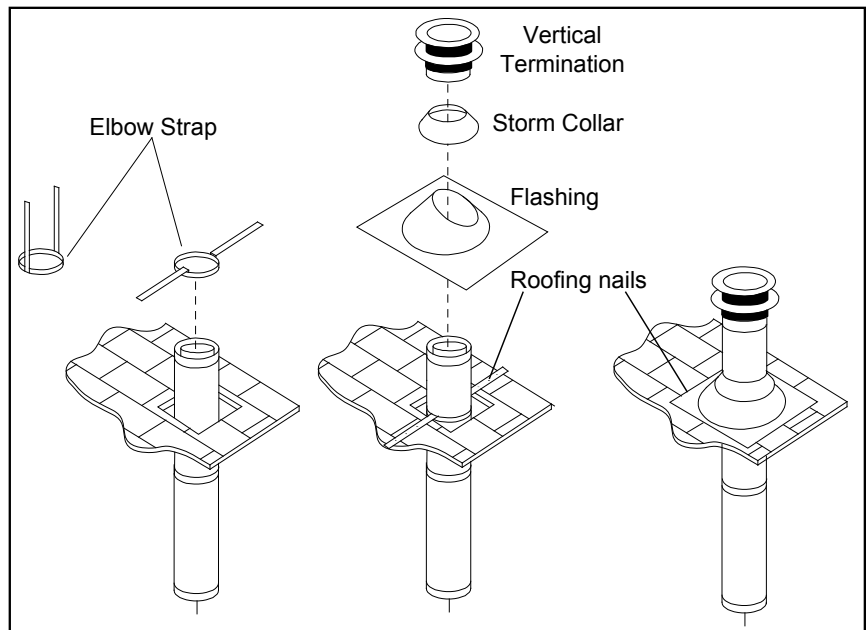

Figure 33. Vertical Vent Termination
- STEP 6.** Once the pipe sections have been joined, and run up through the hole in the roof, slip an elbow strap over the exposed sections, bend the support straps outwards, and push the elbow strap down to the roof level, as shown in Figure 33. Tighten the clamp around the pipe section. Use a level to make sure the pipe is truly vertical. With roofing nails, secure the support straps to the roof. Seal the nails holes heads with non-hardening mastic. Trim the excess length of the support straps that extend out beyond the edge of the flashing.
- STEP 9.** Slip the storm collar over the pipe, and push it down to the top of the roof flashing as shown in Figure 33. Use the non-hardening sealant around the joint between the pipe and the storm collar.